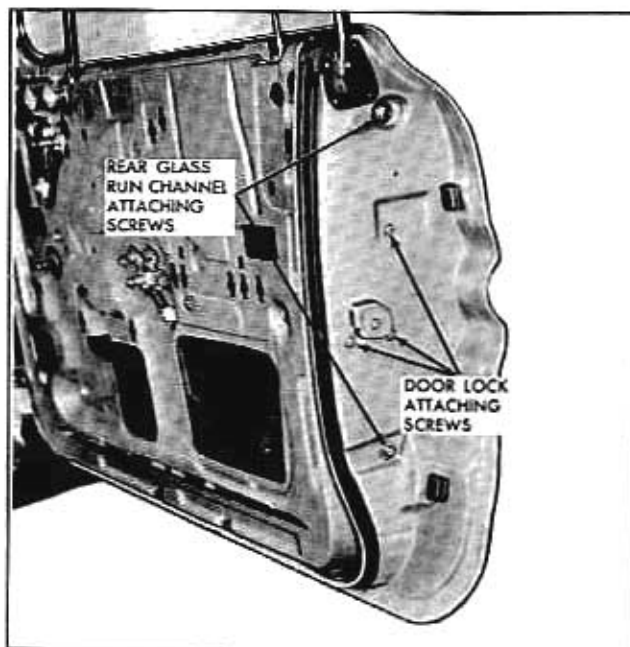

Fig. 2-25 Channel Attaching Screws
2. Remove two screws securing channel to lock pillar facing of door and screw at upper flange of door inner panel. Then remove channel assembly through large access hole (Fig. 2-25).
2. Remove ventilator division channel lower adjusting stud and nut (Fig. 2-25).